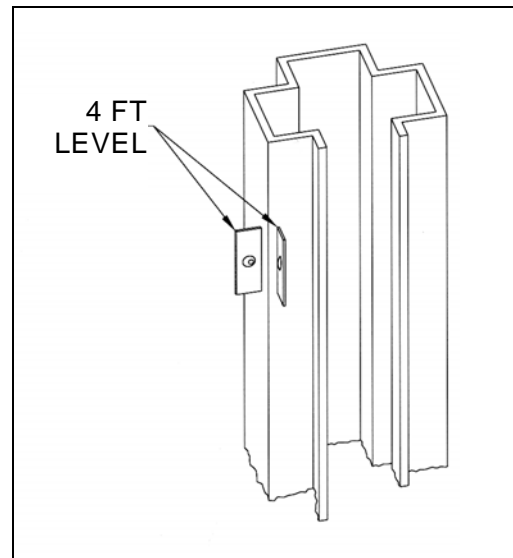

Figure 11. Post leveling
6. Use a 4' level, to level the posts. Refer to Figure 11.